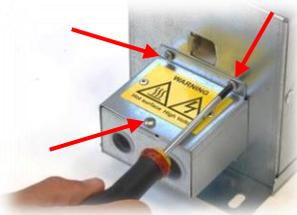

Figure 1
22. remove the cover by unscrewing the 3 screws as shown in the Fig. 1.
30. Close the lip by screwing 3 screws as shown in the Figure 1, max clamping torque is 1 Nm.